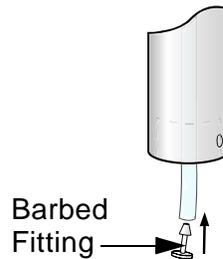

Figure 2. Barbed Fitting
- 6 Push a barbed fitting into the end of the tubing, as shown in Figure 2.